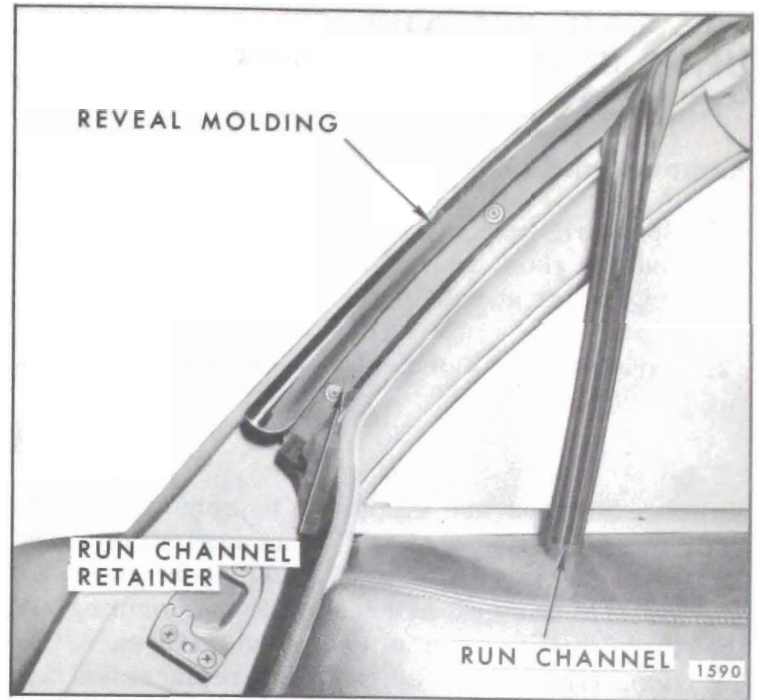

Fig. 9-50—Tail Gate Upper Glass Run Channel Retention
- Once run channel has been removed, the retainer attaching screws are exposed. (See Fig. 9-50.) The retainer can be adjusted by loosening attaching screws, shifting retainer to desired position and tightening screws. If retainer is removed, seal same with medium body sealer prior to installation.